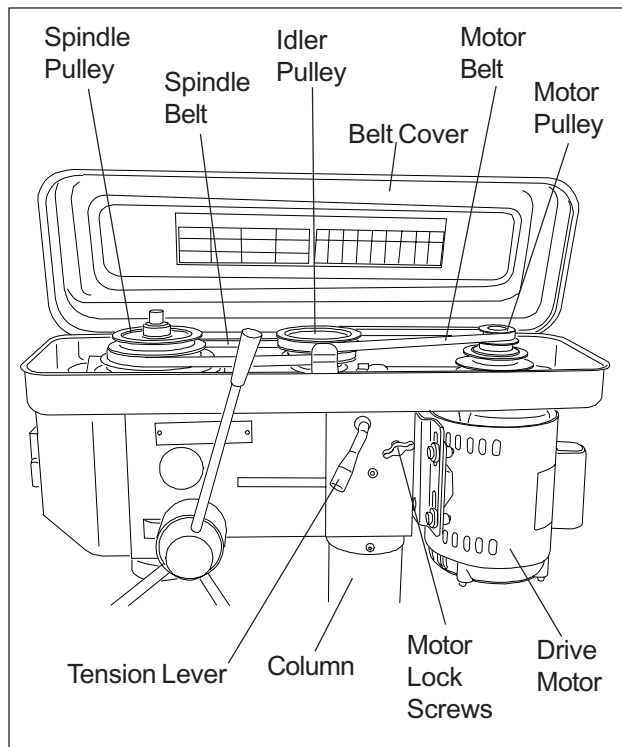

Figure 8. Pulley and Belt Locations
2. Open the belt cover (Refer to Figure 8).